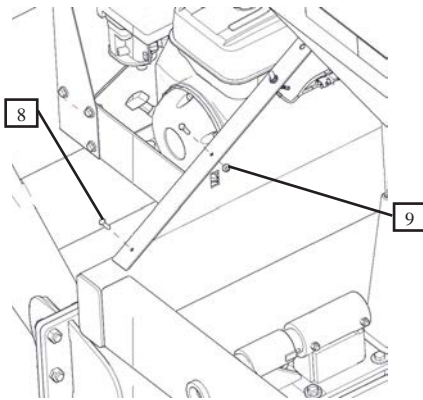
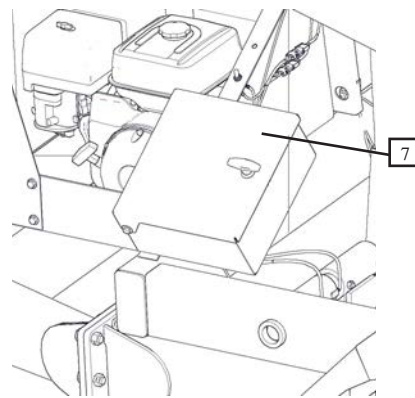

Figure 6.4
Figure 6.5
15. Attach Scale Display Box (#7) onto the Shell/Leg Weldment (Figure 6.5) with 1/4"-20 X 1" Grade 5 Zinc Hex Bolt (#8) and 1/4"-20 Grade 5 Zinc Serrated Flange Hex Nut (#9) (Figure 6.4). Remove the Stationary control box from the Leg and attach to the outside of the Scale Display Box (#7).